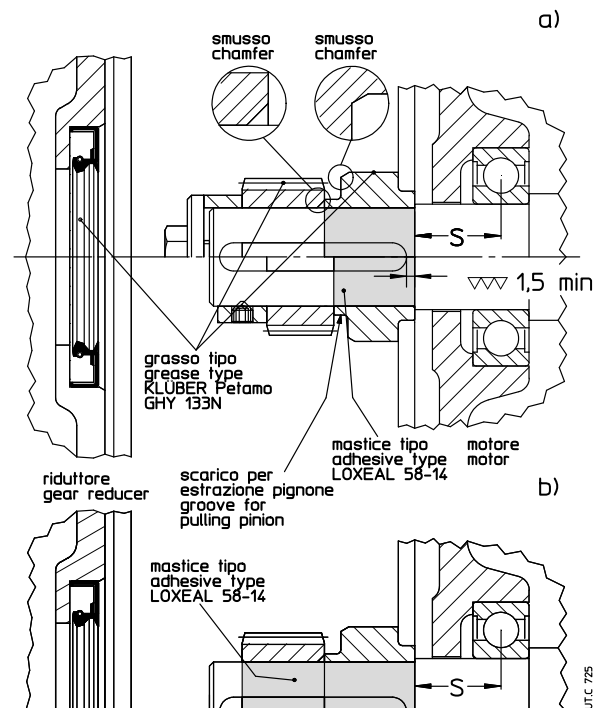

Fig. 7.3.1
- make sure that the motors have bearing location and overhang (dimension S see fig. 7.3.1) as stated in table 7.3.1.